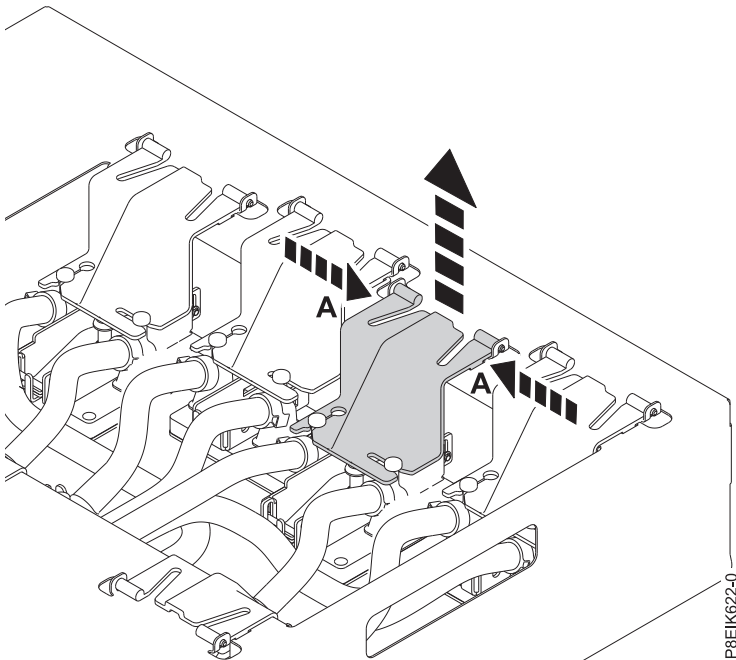

Figure 35. Removing the holder from the carrier
- a. Remove a cold plate from its plastic holder. Lift and pinch the plastic holder at points (A) to remove it from the carrier as shown in Figure 35 on page 28.